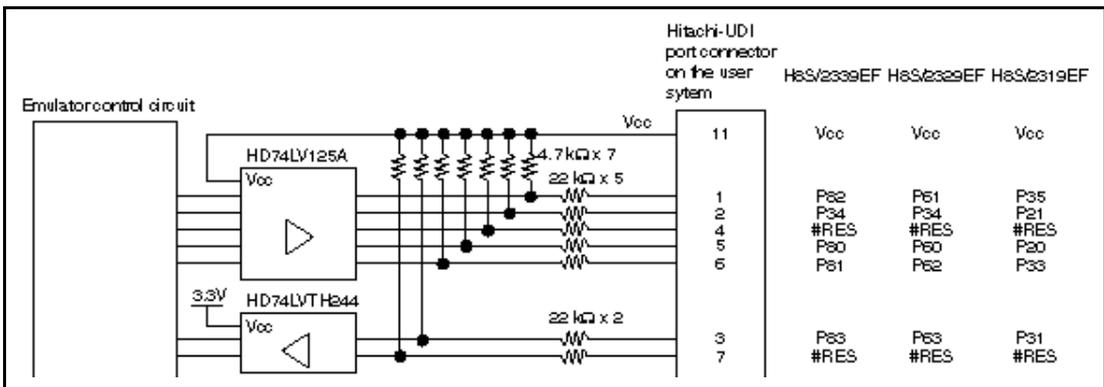

Figure 4.5 Interface Circuit in the Emulator (Reference)
- Figure 4.5 shows the interface circuit in the emulator. Use this figure as a reference when determining the pull-up resistance value.